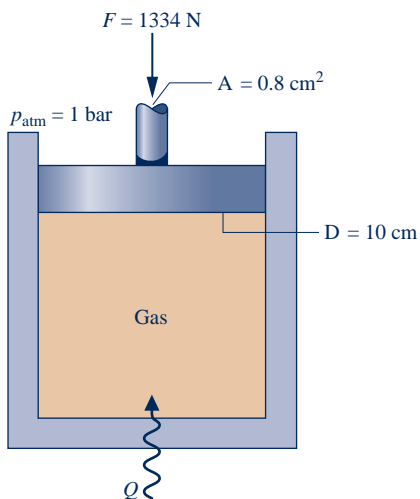

Fig. P2.70
2.70 Figure P2.70 shows a gas contained in a vertical piston–cylinder assembly. A vertical shaft whose cross-sectional area is 0.8 cm² is attached to the top of the piston. The total mass of the piston and shaft is 25 kg. While the gas is slowly heated, the internal energy of the gas increases by 0.1 kJ, the potential energy of the piston–shaft combination increases by 0.2 kJ, and a force of 1334 N is exerted on the shaft as shown in the figure. The piston and cylinder are poor conductors, and friction between them is negligible. The local atmospheric pressure is 1 bar and $g = 9.81 \text{ m/s}^2$. Determine, (a) the work done by the shaft, (b) the work done in displacing the atmosphere, and (c) the heat transfer to the gas, all in kJ. (d) Using calculated and given data, develop a detailed accounting of the heat transfer of energy to the gas.